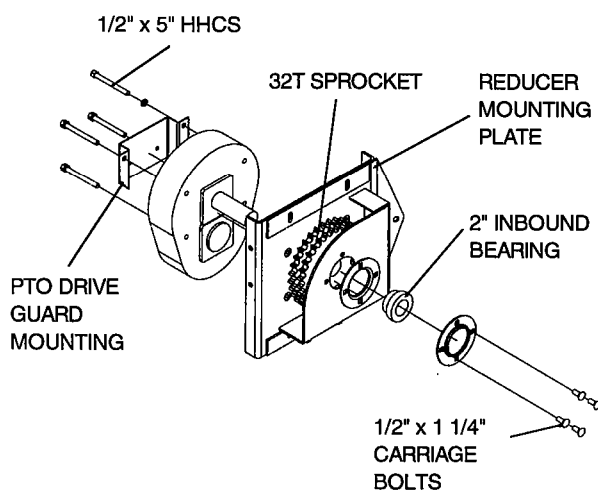
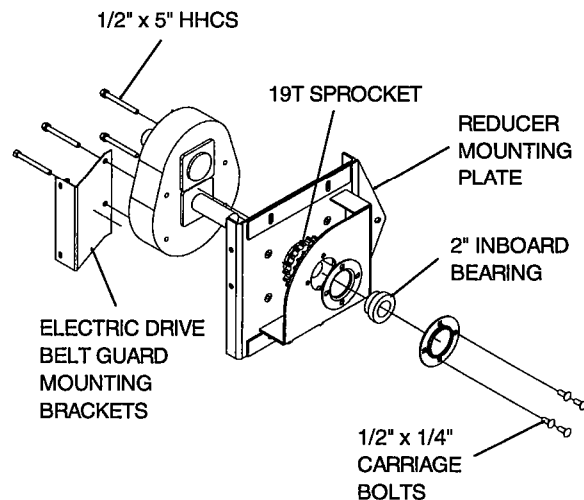

FIG. 1
FIG. 2
3. Install the reducer and sprocket to the supplied reducer mounting plate. It will be necessary to thread the output shaft of the reducer through the new mounting plate, then into the sprocket and finally out the inboard bearing hole. (See Fig. 1 for assembly of the reducer with the PTO drive and Fig. 2 for the assembly of the reducer with the electric drive). Be sure the hub side of the sprocket faces the reducer and that the drive key has been installed into the output shaft keyway. **DO NOT** tighten the setscrews on the sprocket at this point. Leave the sprocket loose on the output shaft.
5. Slide the sprocket over against the reducer mounting plate. Install the supplied 2" bearing onto the end of the output shaft as shown in Fig. 1 & Fig. 2. The bearing is installed with the lock collar facing in, adjacent to the sprocket. The end of the output shaft will be flush or slightly recessed into this bearing. Install the 1/2" x 1 1/4" carriage bolts through the bearing flangettes and tighten them in place to retain the 2" bearing in the reducer mounting plate. NOTE: The 1/2" nylock nuts for the carriage bolts are assembled inside the reducer assembly. Next, lock the bearing collar to the shaft.